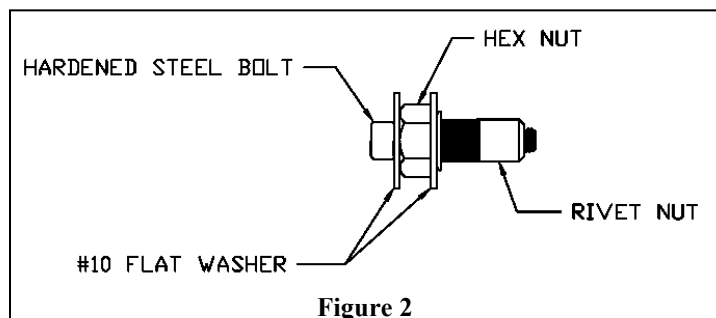

Figure 2
6. Place a #10 flat washer, hex nut, another #10 flat washer and rivet nut on black hardened steel bolt, shown in **Figure 2**, and place in drilled hole. Use a **7/16"** wrench to hold hex nut and **5/32"** hex bit to turn the hardened steel bolt until rivet nut is tightened down. **(Do not install with drill, use hand tools only)**. Remove hardened steel bolt, flat washers and hex nut. Repeat in all four holes.